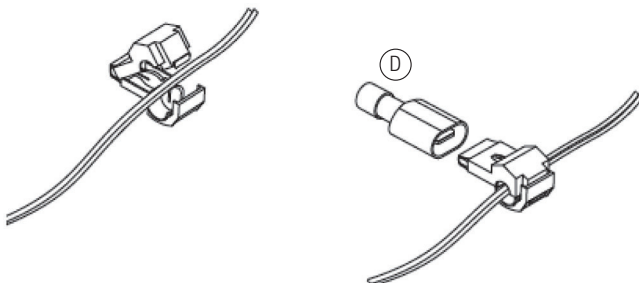

Figure 2: T-tap Connection to trigger wire
- Using a multi-meter or test light find the active high beam switching wire located on the back of the head light. Connect "tee tap" connector onto this wire, refer to figure 2
- Fit the switch wire to the "tee tap", strip 5mm of the insulation from the red wire (D) and crimp pink blade terminal to the end. Plug it into the "tee tap".